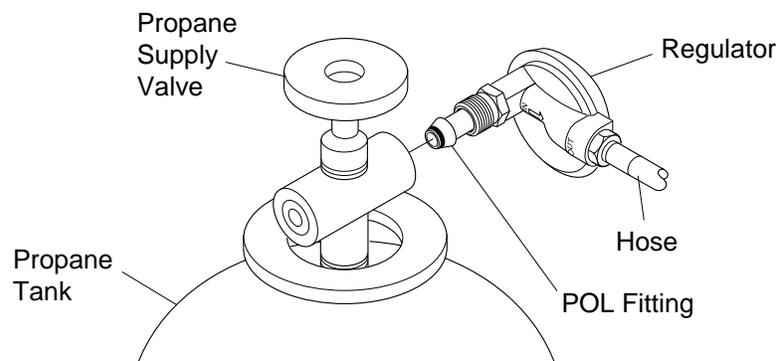

Figure 3 - Regulator Position
2. Connect POL fitting on hose/regulator assembly to propane tank(s). Turn POL fitting counterclockwise into threads on tank. Tighten firmly using 2.22 cm (7/8 inch) wrench. **IMPORTANT:** Position regulator so that hose leaving the regulator is in a horizontal position (see Figure 3). This places the regulator vent in the proper position to protect it from the weather.